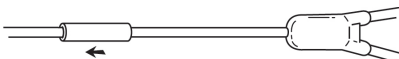

Fig. 8
8. Slide the sleeve over the junction. (Fig. 8)